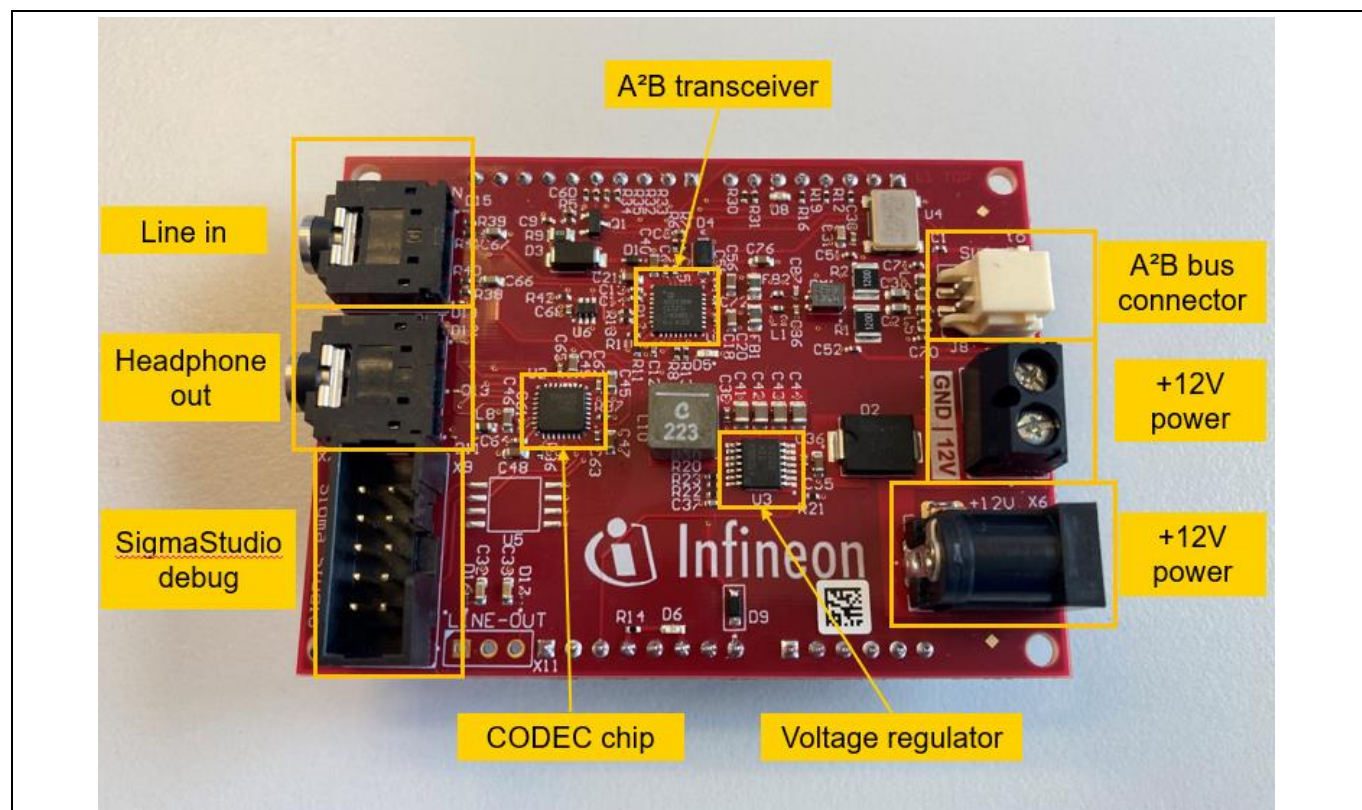

Figure 6 A²B master board and its components
4. Connect the 12V power supply line to the A²B master board (Figure 6)